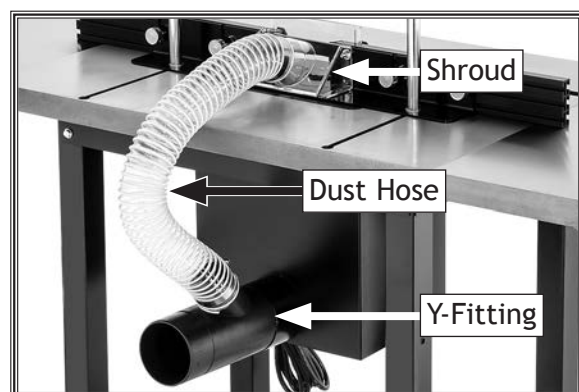

Figure 8. Example of dust hose connecting Y-fitting and fence dust shroud.
4. Attach 2 1/2" dust hose (see **Figure 8**) on Y-fitting and the dust shroud on your router table fence. Secure with 3" hose clamps.